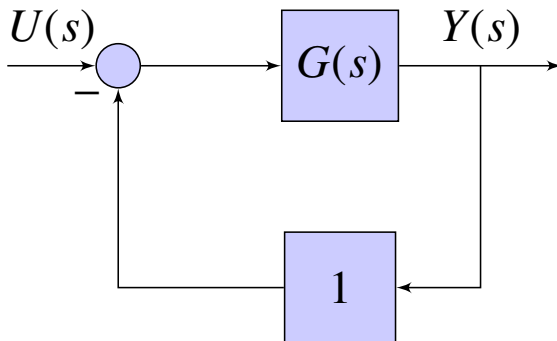

Fig. 1.1.1
- 1.1.1. For a unity feedback system shown in Fig. 1.1.1, having transfer function given below in eq 1.1.1.1. Design the value of gain K for (i) a gain margin of 38 dB. (ii) Phase margin of 40° . (iii) to yield maximum peak overshoot of 20 percent for a step input.